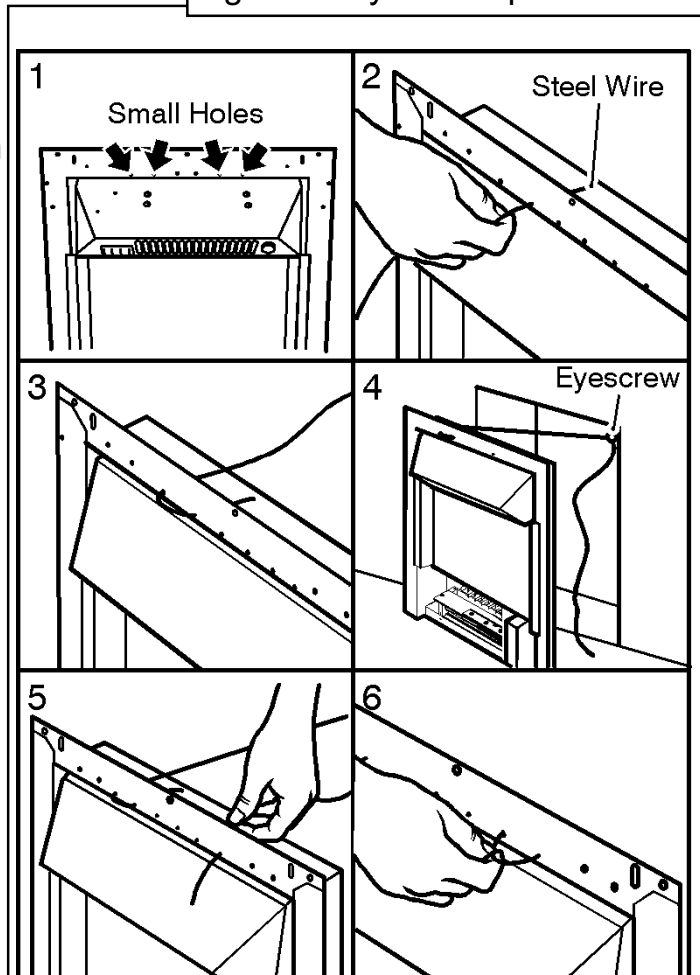

Figure 7. Steel wire fixing (Detail at top of heater may differ from that shown)
7. At the top of the heater there are four small holes, two each side of the heater (See figure 7 - Item 1). From the front of the heater, thread about 50mm (2 inches) of the steel wire into the inside small hole on the left side of the heater (See figure 7 - item 2).
8. Thread the other end of the wire through the remaining small hole on the left hand side of the heater. Continue to push the wire through this hole until there is only a small loop of wire at the front of the heater (See figure 7 - item 3).
9. At the back of the heater there will be a long piece and a short piece of wire coming through the two holes. Hold the short piece and give the long piece a gentle tug. This will secure the steel wire. Take the long piece and thread this through the eyescrew in the back of the fireplace opening (See figure 7 - item 4).
10. From the back of the heater thread the long piece of steel wire through the outer small hole on the right hand side of the heater (See figure 7 - item 5).
11. Locate the heater in the fireplace opening, then from the front of the heater, gently pull the steel wire on the right hand side to gather up the excess until the heater is secure. Thread the wire through the remaining small hole to lock the wire and heater in place (See figure 7 - item 6).